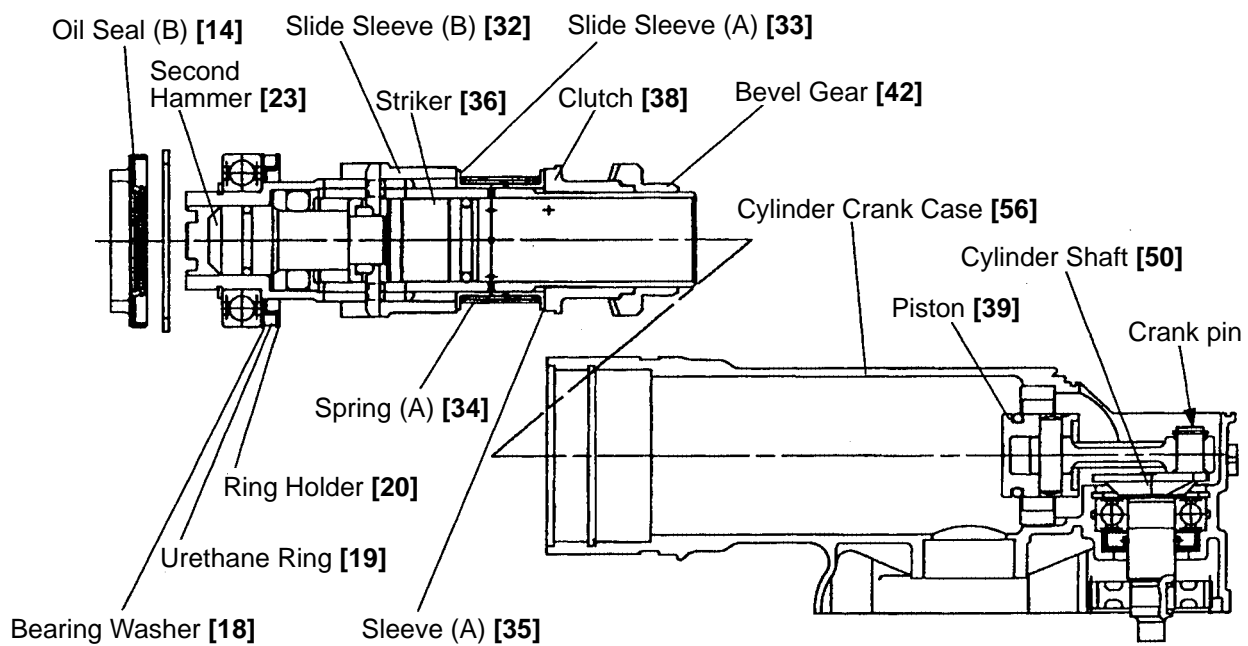

Fig. 19
Insert the Striker [36] into the Cylinder [31]. Mount the Bearing Washer [18], Urethane Ring [19], Ring Holder [20], Slide Sleeve (B) [32], Slide Sleeve (A) [33], Spring (A) [34], Sleeve (A) [35], Clutch [38] and Bevel Gear [42] to the Cylinder [31]. Move the crank pin of the Crank Shaft [50] then move the Piston [39] to the top dead center. Insert the hammer sleeve assembly into the Cylinder Crank Case [56]. If the Slip Clutch Ass'y [71] is mounted in the Cylinder Crank Case [56], it will be an obstacle for mounting the Bevel Gear [42]. Before mounting the Slip Clutch Ass'y [71], mount the hammer sleeve assembly to the Cylinder Crank Case [56]. When press-fitting Oil Seal (B) [14], cover the Hammer Sleeve [21] with the Driver [13] to protect the inside lip portion (Fig. 19).